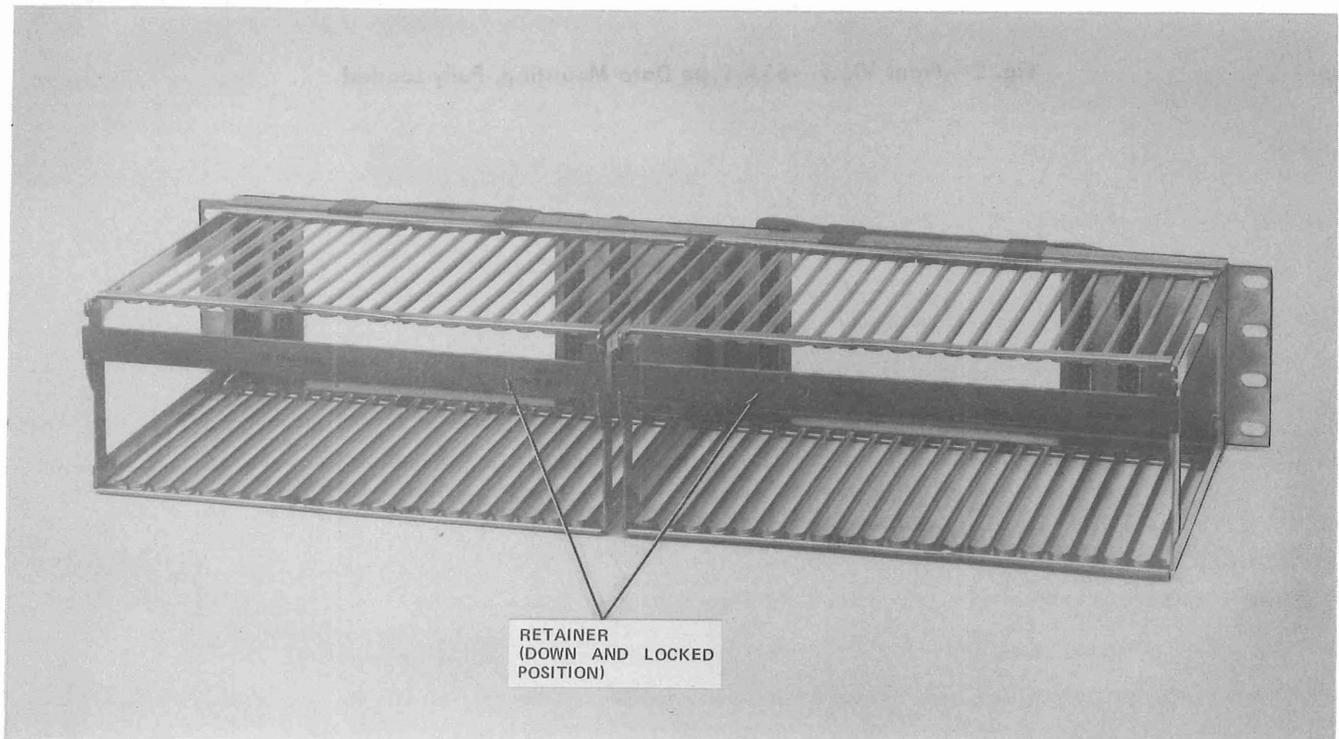
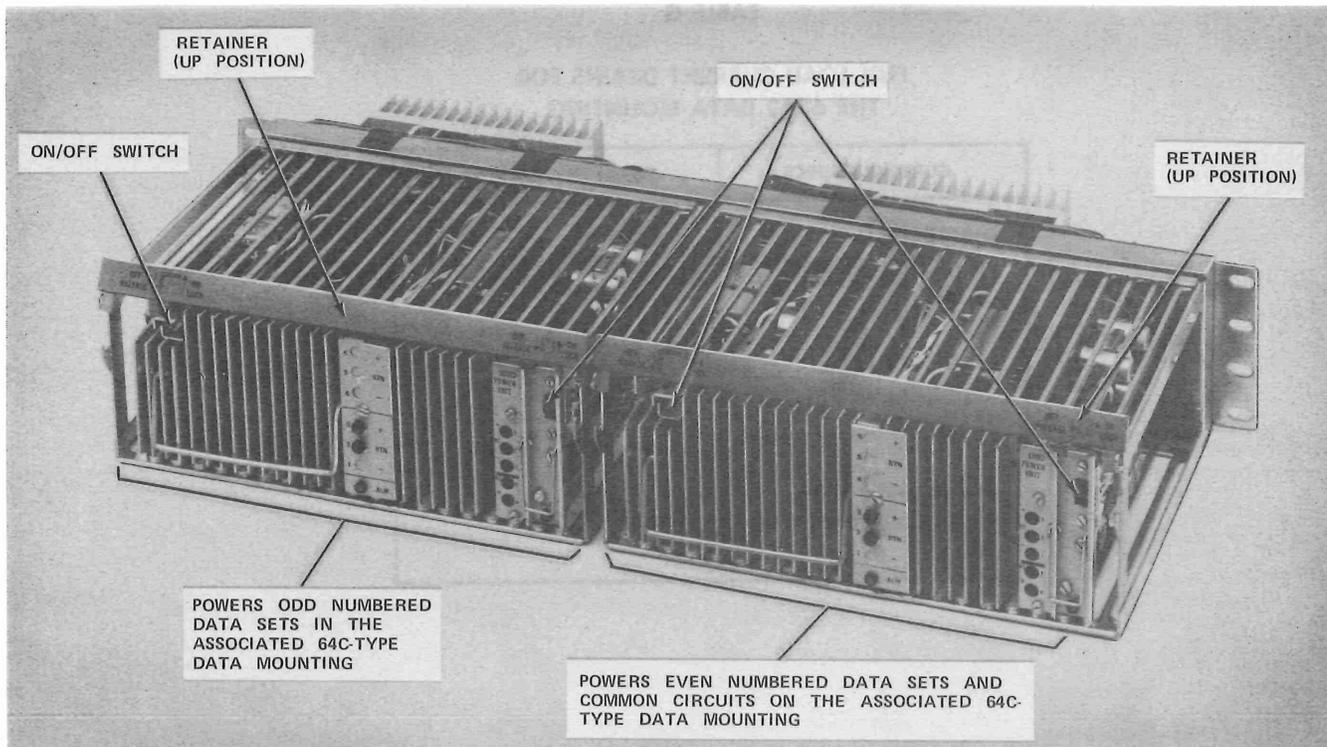

Fig. 1—Front View—65A-Type Data Mounting
Fig. 2—Front View—65A-Type Data Mounting, Fully Loaded
**1.01** This section contains a physical and functional description of the 65A-type data mounting (Fig. 1).
**1.04** The 65A-type data mounting accommodates four power units which are ordered separately (See Table A). If less than five data sets are used, they should be in the even numbered positions on the 64C-type data mounting and the power units plugged into the right side of the 65A-type mounting looking at the front (see Fig. 2).
**2.02** A retainer is used on the front of the 65A-type data mounting (Fig. 1) to prevent inadvertent operation of the faceplate mounted ON/OFF switches on the power units. Figure 2 shows the retainer in the up position, and Fig. 1 shows the retainer in the down or locked position.